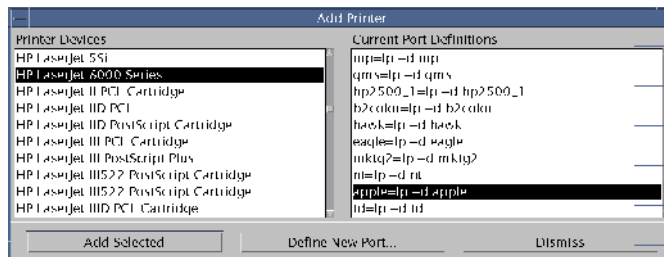

Figure B-4. Add Printer Dialog Box
4. **Click *Add Printer*.** This displays the Add Printer dialog box (Figure B-4).